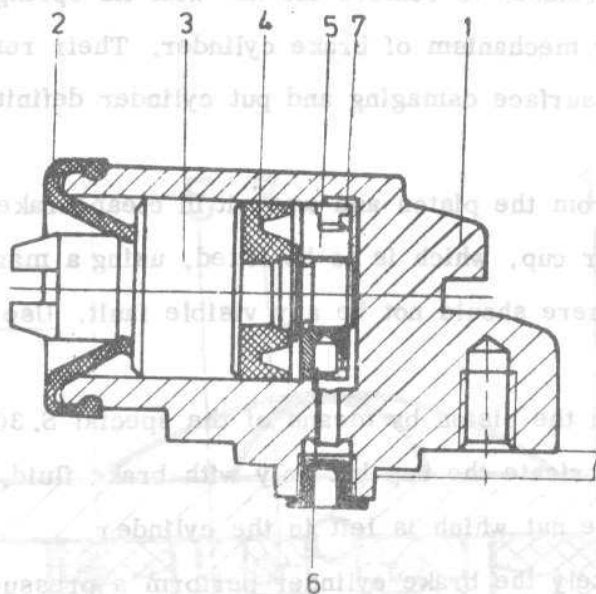

Fig. 2.44. FRONT WHEEL BRAKE CYLINDER.
- Going on, perform the successive operation on a bench (see fig. 2.44).
- Remove firstly brake cylinder boot (2) and then the piston with its rubber cup (5) and (4). Check the spring for oxidation traces; if oxidation traces or rust spots will be found, renew the spring.